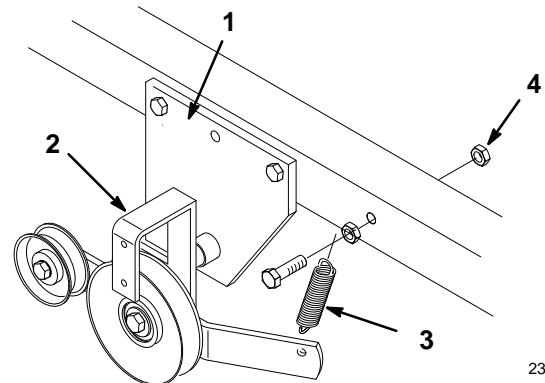

Figure 20
9. Open mid-mount hitch and remove idler bracket assembly (Fig. 20). Unhook spring from idler arm (Fig. 20).
10. Remove second lock nut from spring mounting bolt and remove (Fig. 20).